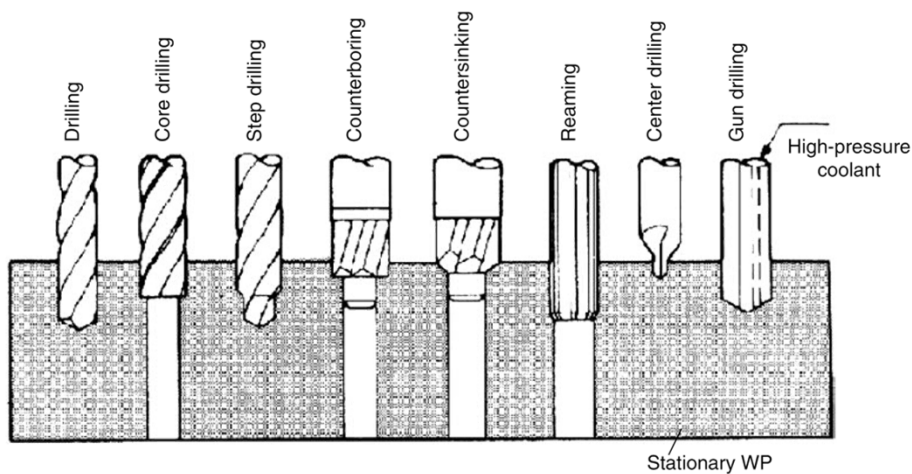

FIGURE 3.19 Drilling and drilling allied operations.
- Drilling allied or alternative operations such as core drilling, center drilling, counterboring, countersinking, spot facing, reaming, tapping, and other operations can also be performed on drilling machines as shown in Figure 3.19.